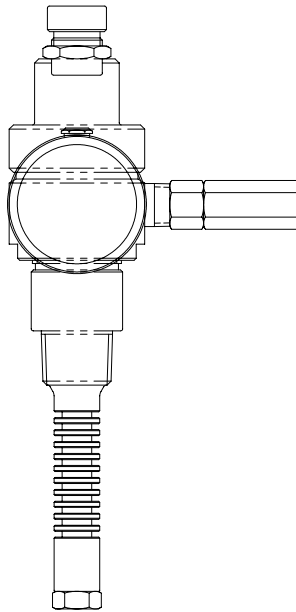

Figure 1 Sample Probe
- 4) Ensure Sample Probe threads are free from dirt and debris (see Figure 1).